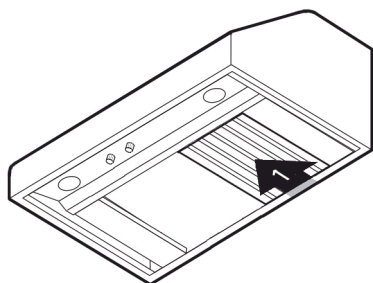

FIGURE 15: REMOVE THE STAINLESS STEEL BAFFLES – PART A
- a. Push up on rear of baffle to clear the catch and slide towards the front of the hood (FIGURE 15).